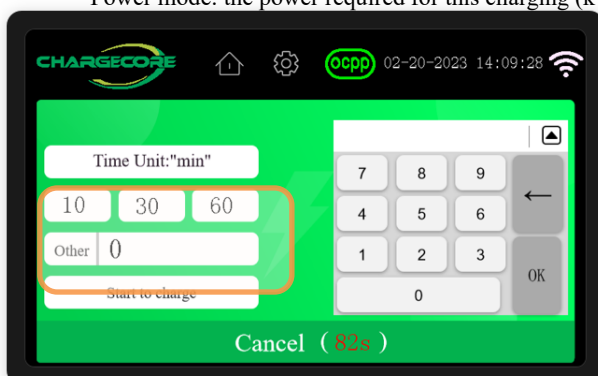

Figure 44. Time mode: the required charging time for this time
a. Enter the percentage of electricity required for this vehicle (%) / the required charging time for this time (min) / the required electricity for this charging (kwh) (as shown in Figure 44)